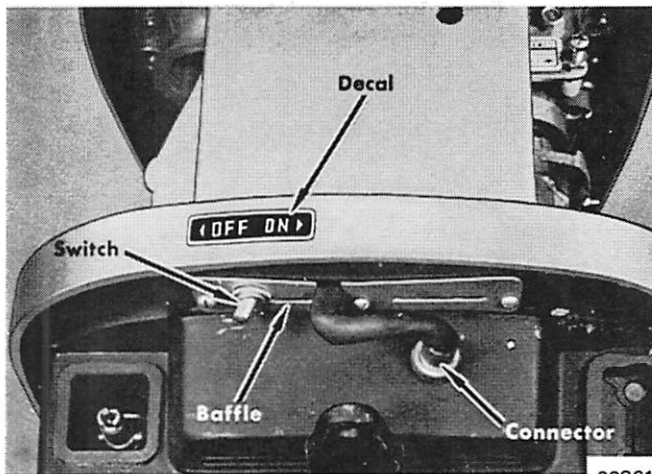

Figure 1. Magneto Shorting Switch Installed
2. Fasten new baffle (with shorting switch) in position with 3 screws removed, previously in step No. 1. (Figure 1)
3. Fasten connector, which is located on end of shorting switch lead wire, to connector which is located in bottom cowl. (Figure 1)
4. Remove paper backing from "Off" - "On" decal and place decal in position on protector rim directly above shorting switch. (Figure 1)